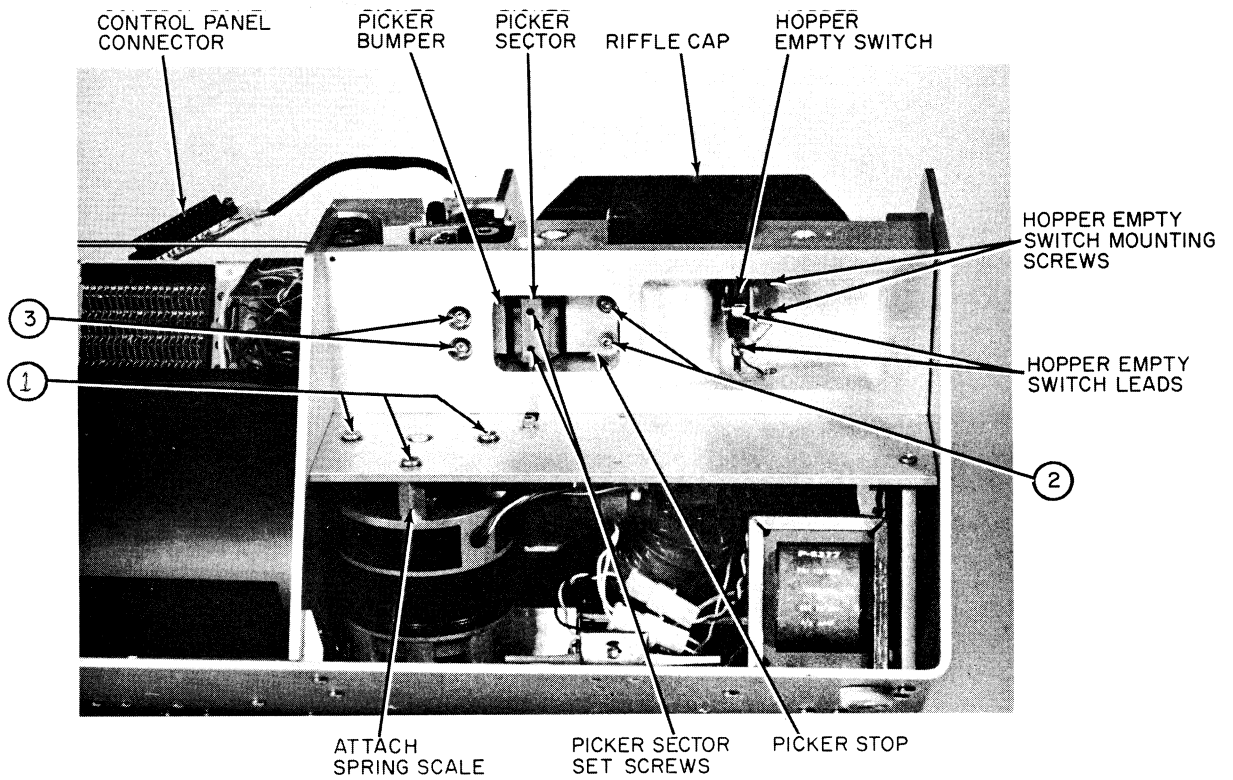

Figure 6-10. Picker Sector Adjustment, Front View
- b. If height of picker sector requires adjustment , use a 5/64 Allen wrench and LOOSEN set screws in back of picker sector , figure 6-10 .
- j. Using a 5/64 Allen wrench, LOOSEN two picker stop screws ②, figure 6-10.
- s. Using a 9/64 Allen wrench, LOOSEN two picker bumper socket head screws, ③, figure 6-10